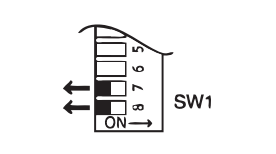

Fig. 6
- Return the unit to normal operation by setting switches 7 and 8 of the SW1 set back to OFF (Fig. 6). Close all water taps.